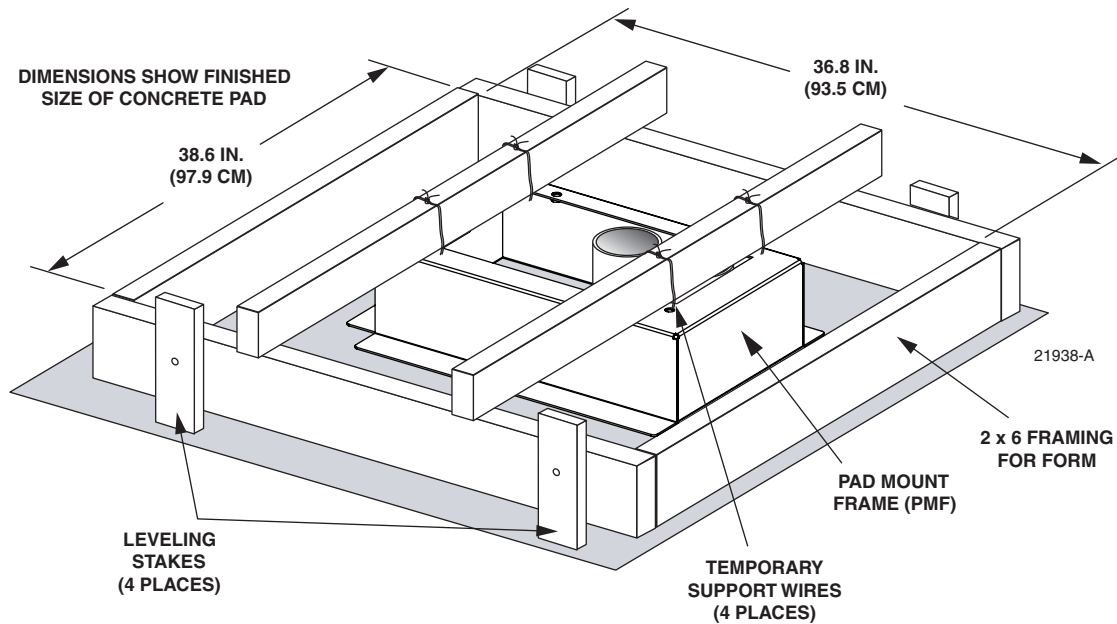

Figure 4. Cabinet Concrete Pad Framing
1. Build a wood form for the concrete pad using 2 x 6 framing lumber as shown in Figure 4.
- **Note:** Use temporary top framing to keep the top surface of the PMF flush and level with the top of the concrete pad (see Figure 4) while the concrete is poured.